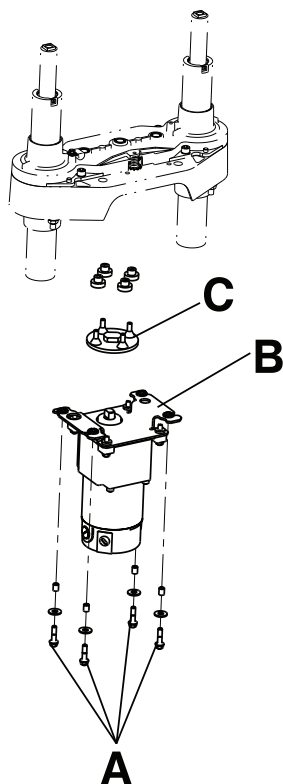

Figure 11 – Lift motor components
- Using a 3/8" socket with a 6" extension, remove the four bolts (A) that secure the isolation plate (B) to the lift housing (Figure 11). Lower the lift motor and isolation plate assembly to allow access to the coupler (C).